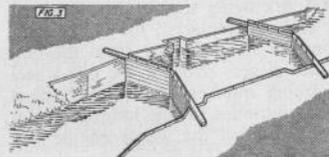

Fig. 3 : General arrangement of a single lock—note how the gates meet at an angle, facing upstream.
The drag should be finished, as suggested, with a stockade buffer stop. This as shown in Figure 3 is purely a box with shaped sides secured to a back and front. Across the top of the latter is placed the buffer-plank (D). The frame so formed is fastened
The one was introduced by a model-railwayist of the period for the getting of long wheel-based tank locomotives of the 0-8-0 and 0-10-0 types (a speciality of his) around his curves. He attained his object by articulating the wheel-bases within the limits allowed by the frames. Figure 3 gives the idea. Pivoting of the articulated sections was near their outer ends as indicated so that the front and rear ends of his engines sat well over the rails with little lateral displacement. Stability was given by sliding
The exploded diagram (Fig. 3) shows the forward structure of this vessel and as can be seen it consists of a box-like structure with a winged bridge and two gun platforms.